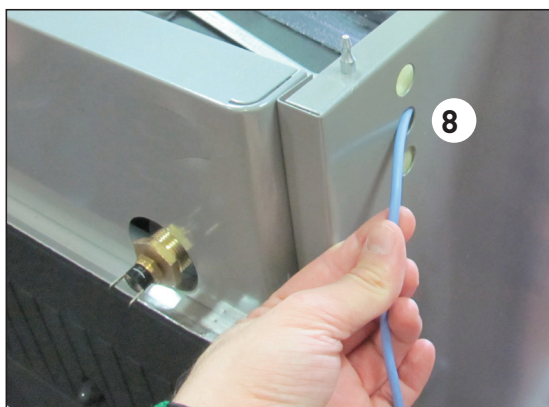
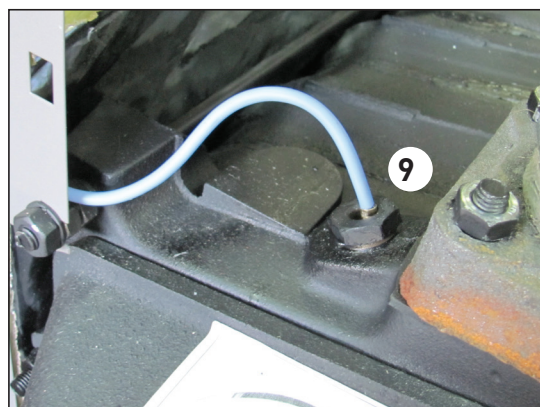

Fig. 13 Inlet joint
Fig. 14 Inlet joint
- C) Place the inlet joint (8 fig. 13) in the sheath (9 fig. 14) found on the boiler body